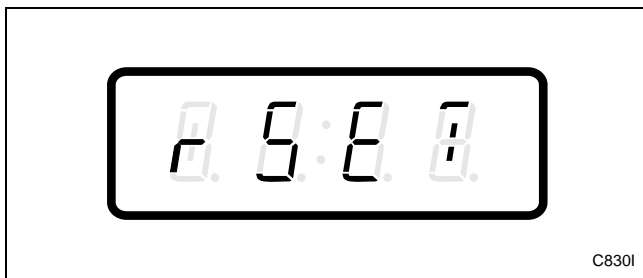

Figure 205
2. Press the DELICATES (+) or the COLD (-) keypad until "rSET" appears. Refer to *Figure 205*.